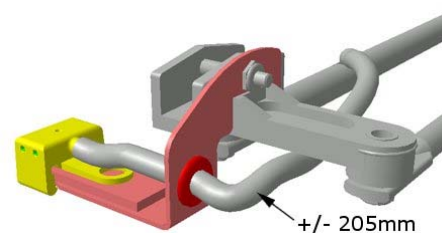

FIGURE 10: L.H. SIDE WIPER ARM
11. Save the windshield washer nozzle bracket and reinstall on the new L.H. side (driver side) wiper arm (FIGURE 10).